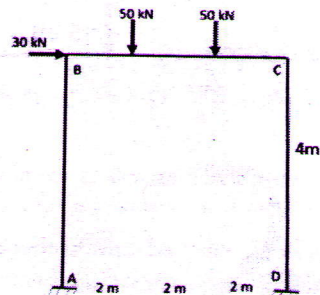

Figure 8
- b) Discuss the development of total flexibility matrix of the structure. (5)
- 5 a) Analyse the frame shown in Figure 8 by stiffness matrix method. Moment of inertia for all members are I (15)